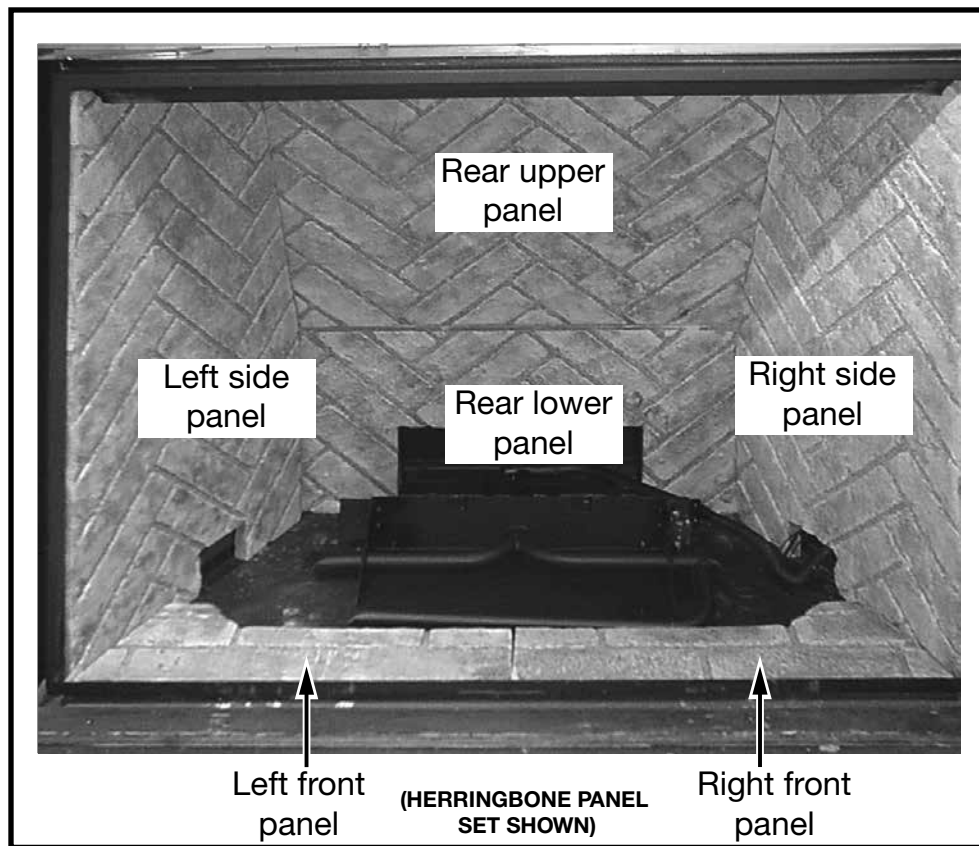

Figure 44: TC42 outdoor panel placement.
1. Install the Lower Rear Panel (Figure 44).
6. Install the Left and Right Front Panels (Figure 44).